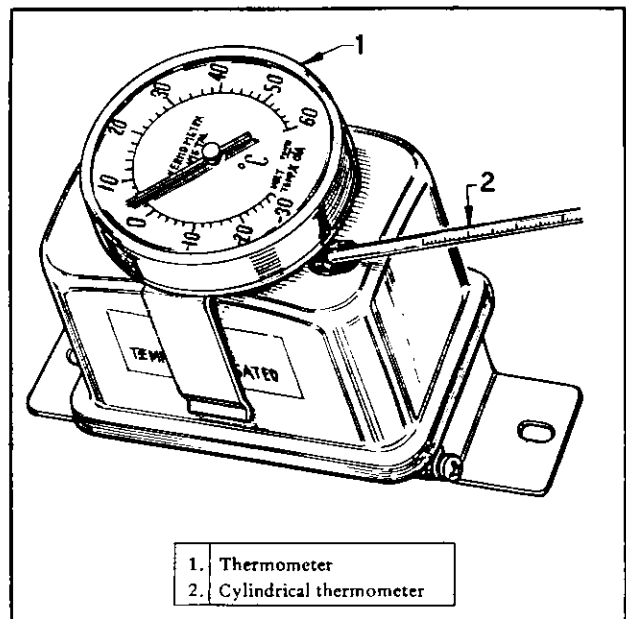

Fig. EE-67 Measuring of regulator cover temperature
In this case, use the thermometer (90196-0001P) or cylindrical thermometer with putty as shown in Figure EE-67.
2. Measure the temperature of regulator cover as shown in Figure EE-67.